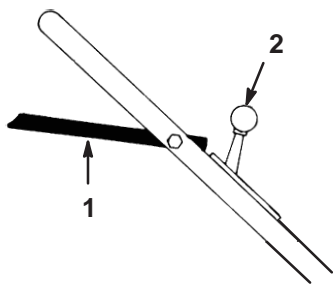

Figure 8
The blade control bail and throttle control are on the upper handle as shown in Figure 8.
- Move the throttle control to the  (**Choke**) position (Fig. 8).